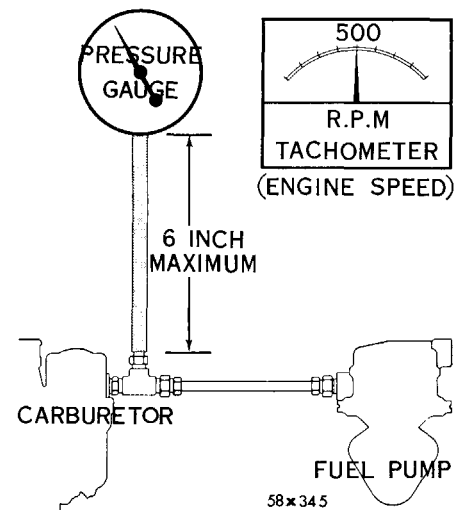

Fig. 5—Pressure Testing the Fuel Pump
(1) Insert a "T" fitting in the fuel line at the carburetor, as shown in Figure 5.
(2) Connect a 6 inch piece of hose between the "T" fitting and gauge C-3411. (The hose should not exceed 6 inches. A longer hose may collect fuel and the additional weight would be added to the pressure of the pump and result in an inaccurate reading.)
(3) Vent the pump for a few seconds (this relieves any air trapped in the fuel chamber). If this is not done, the pump will not operate at full capacity and a low pressure reading will result.
(4) Connect a tachometer, then start the engine and run at 500 r.p.m. The reading should be from 3½ to 5 p.s.i. on Models M-2996S, and M-2769S and from 5 to 7 p.s.i. on Models M-2608S and M-2611S. The pressure should remain constant or return to zero very, very slowly when the engine is stopped. An instant drop to